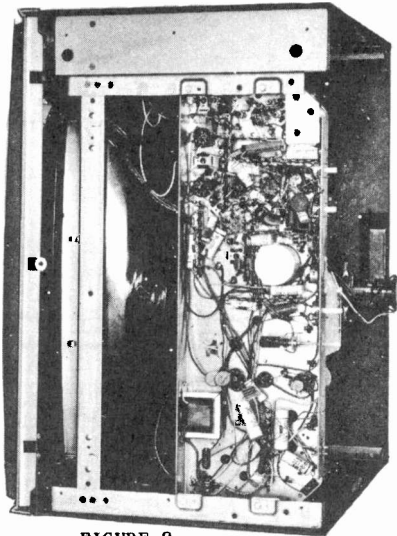

FIGURE 2.
By removing the back and bottom covers, the chassis is completely exposed (see Figure 2). Nine (9) screws secure the bottom panel to the cabinet. Voltages and waveforms can be taken and all chassis components are accessible.